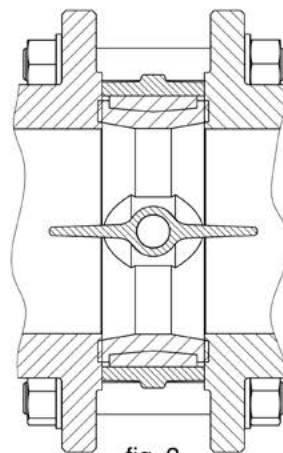

fig. 3
- Support the butterfly by means of four tie rods which, when passing through the holes on the flanges and through the slots on the valve body, allow an initial rough centring between the flanges. Lightly tighten 4 tie rods (opposite each other) until the valve is lightly secured; ensure accurate centring of the valve body to the pipe flanges (an error of ± 1 mm for DN 50 and, proportionally, ± 5 mm on DN 300 are tolerable). Tighten the 4 tie rods until the valve is securely locked. Fully open the butterfly (fig. 3), and fit and tighten any other tie rods provided by the flanging.